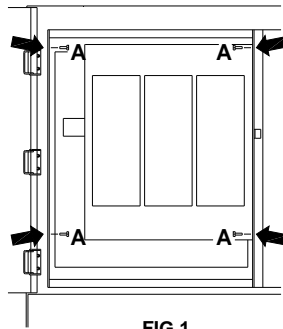

FIG.1
1. After 15 minute capacitor discharge time, remove front barrier, (4) bolts. Figure 1.
1. After 15 minute capacitor discharge time, remove front barrier, four "A" bolts. Figure 1.